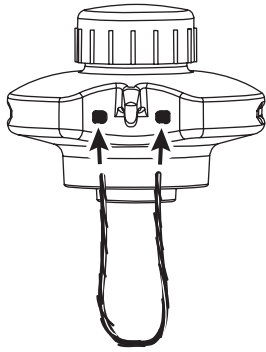

Fig. 16
1. Insert each end of the replacement line into the holes on either side of retention hook (Fig. 16).